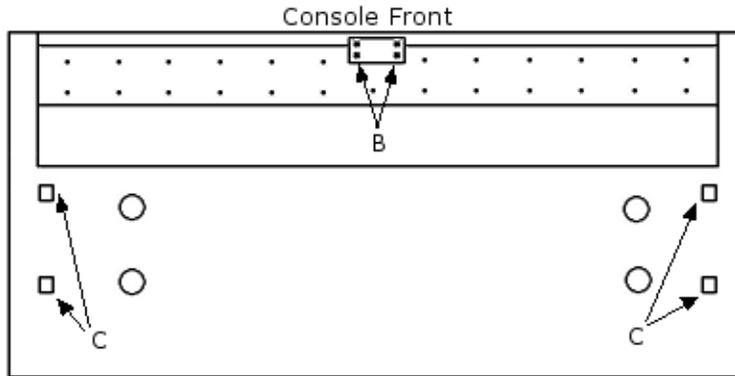

FIG 2 - Underside view of Console
6. Using a suitable screwdriver remove the 2 front rail support screws "B" in Fig. 2.
7. Using a 9/16" wrench or socket wrench, remove the 4 manual retaining bolts "C" in Fig. 2.
25. Once proper operation is verified, reinstall the 9/16" bolts and 2 screws (B and C in Fig. 2).